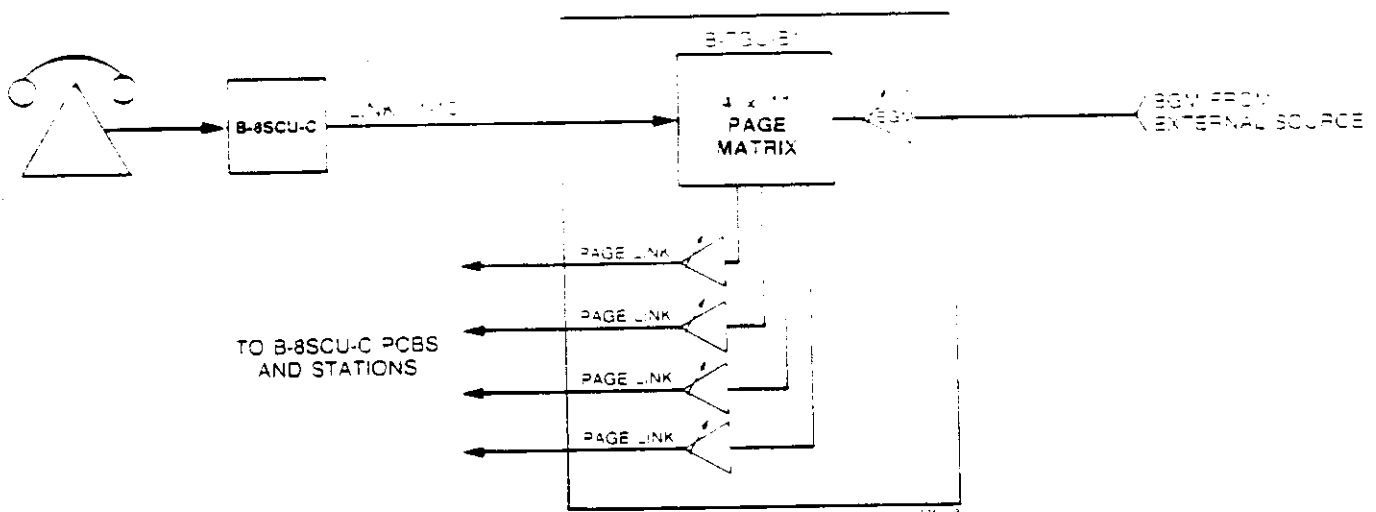

Figure 8-10 PAGING, EK-824/1232/1648
3.22 The 4 X 11 Page Matrix is used to connect the 10 Intercom links and Background Music to the four page amplifiers. As shown in Figure 8-10, a paging announcement comes from a telephone into the B-TGU-B on an Intercom link. The matrix in the B-TGU-B connects the link to all of the page amplifiers. Each amplifier sends the paging signal to a specified number of stations (B-8SCU-C PCBs) on the dedicated page link. Refer to Figure 5-15 or 9-2 for amplifier assignment. The first B-TGU-B PCB in the system provides four amplifiers to drive the page links for the KSU. The amplifiers in the second B-TGU-B PCB are not used.